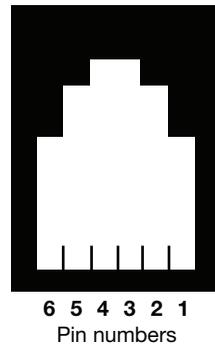

Fig. 23 RJ11 socket
- The electrical wiring for the EIA 232C communications has been carried out in accordance with the EIA 232C standard. Please note the TVA EIA 232C connection requires a connector RJ11 linked to a 9 way D-type adaptor. Figure 23 illustrates the TVA flowmeter's RJ11 socket from the front.